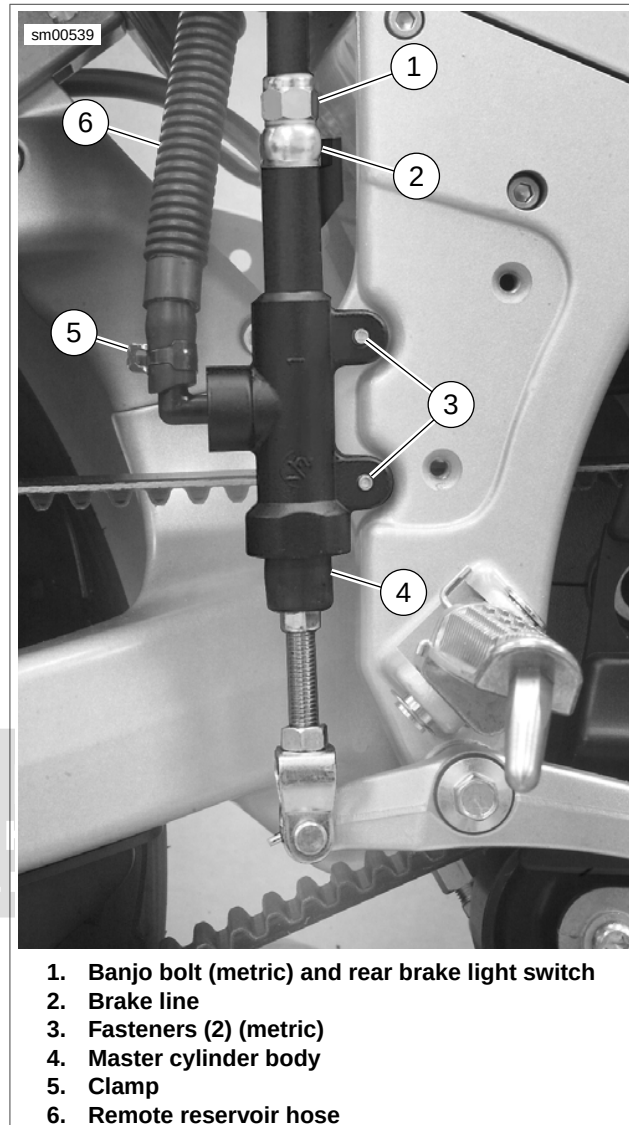

Figure 2-47. Rear Master Cylinder: Firebolt
4. See Figure 2-47. Remove brake reservoir hose (6) at master cylinder.
7. See Figure 2-47. Remove rear brake light switch (1) (metric) and two copper crush washers (3) to detach brake line (2) from master cylinder (4). Discard copper crush washers.
9. See Figure 2-47. Remove fasteners (3) (metric) to detach master cylinder (4) from rider footpeg mount.